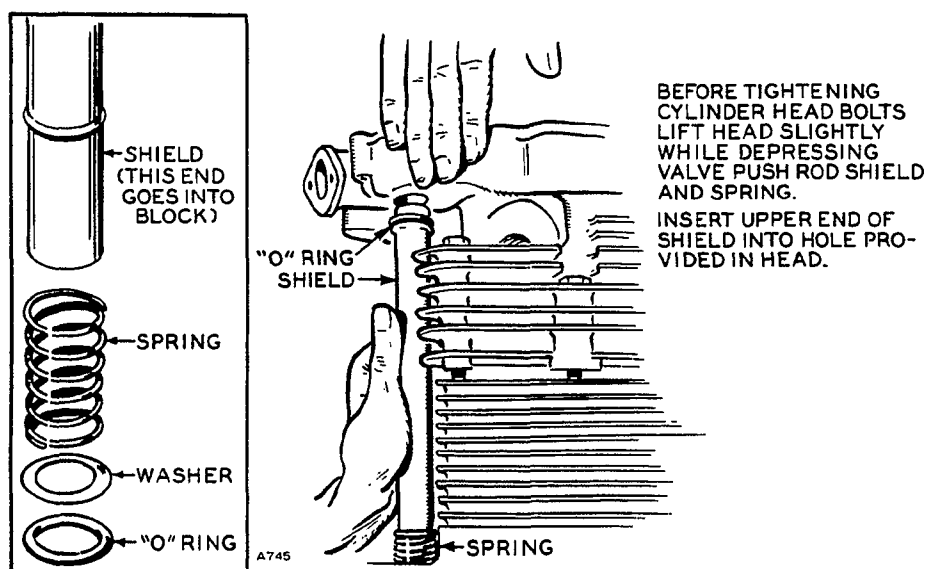

FIGURE 88. INSTALLING PUSH ROD SHIELDS
6. Make up pushrod shield assemblies by installing an O-ring (Figure 88) on one end of rod and a spring, washer and O-ring on opposite end. Lift cylinder heads and install pushrod shield assemblies.